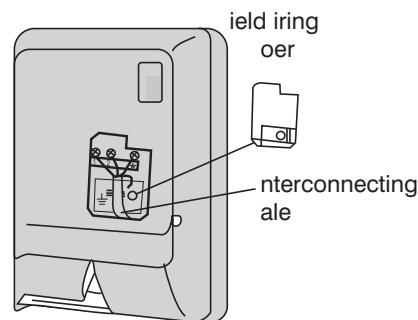

Fig. 16 – Field Wiring Cover
5. Open front cover of indoor unit and remove field wiring terminal block cover (see Fig. 16)